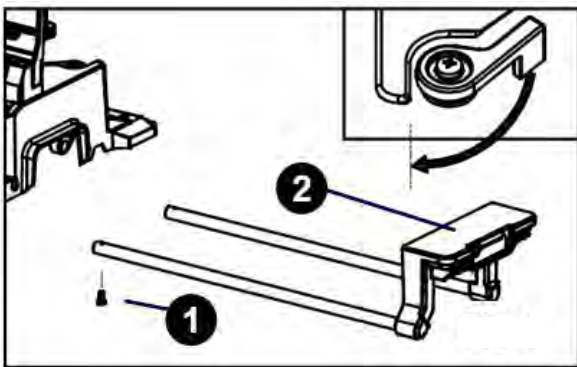

Fig. 7: Mounting the extension table
Step 1: Remove the screw (Pos. 1, Fig. 7) on the table extension (pos. 2, fig. 7).